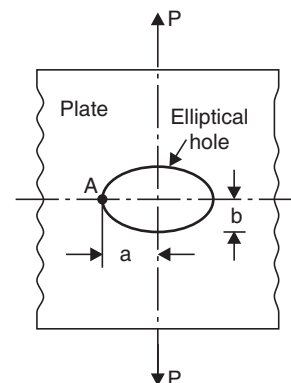

FIGURE 10.4
17. Figure 10.4 shows a plate with an elliptical hole in the centre with semi-major axis = a and semi-minor axis = b . The plate is subjected to a tensile load P . The maximum stress induced at the edge of the hole (i.e., at point A) will be equal to
19. With reference to Fig. 10.4, the stress induced at the edge of the hole (*i.e.*, at point A) will be minimum when
20. If in Fig. 10.4, $\frac{a}{b} = 2.0$, then theoretical stress concentration factor will be equal to
21. If in Fig. 10.4, $\frac{a}{b} = 1.0$, then theoretical stress concentration factor will be equal to
22. If in Fig. 10.4, $\frac{a}{b} = 0.5$, then theoretical stress concentration factor will be equal to